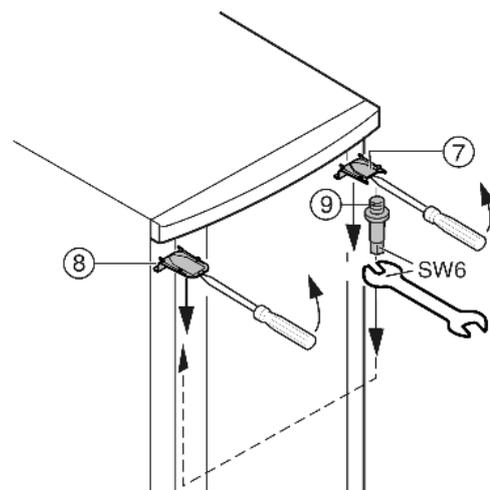

Fig. 8
- ▶ At the top, use a screwdriver to unclip cover Fig. 8 (7) and cover Fig. 8 (8) at the front, and remove by pulling out and down.
- ▶ Unscrew the bearing pin Fig. 8 (9) and screw it firmly into place on the opposite side (**with 4 Nm**).
- ▶ Refit the cover Fig. 8 (7) on the side of the bearing pin: insert at the back, snap in at the front.
- ▶ Fit the cover *Fig. 8 (8)* on the opposite side: insert at the back, snap in at the front.
- ▶ Hang the door on the bearing pin *Fig. 8 (9)* at the top.